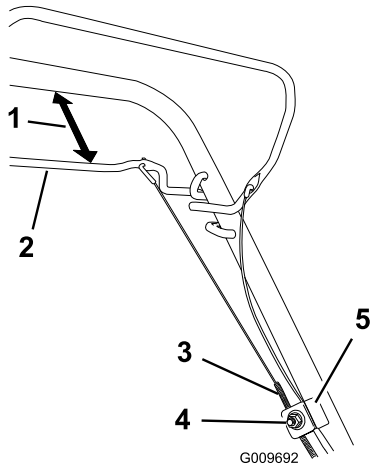

Figure 29
1. Loosen the cable-support nut (Figure 29).
2. Hold the self-propel bail 25 to 38 mm (1 to 1-1/2 inches) from the handle (Figure 29).
3. Pull down the cable jacket (toward the machine) until there is no slack in the cable (Figure 29).